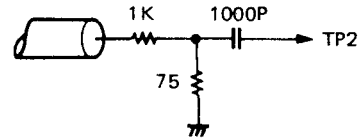
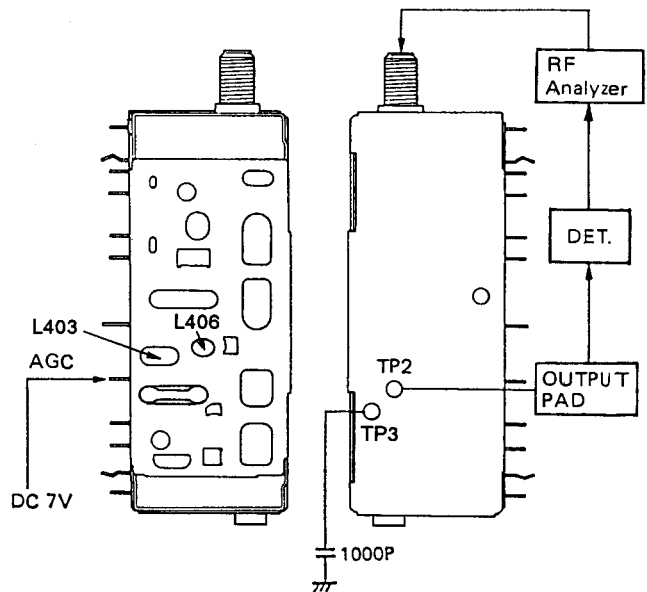

Fig. 5
Fig. 6
1. After connecting an OUTPUT PAD (Fig. 5) to TP2, tune the unit to CH.2. Apply 7V DC to the AGC terminal, and connect TP3 to ground through a 1000 (pF) capacitor. (Fig. 6)